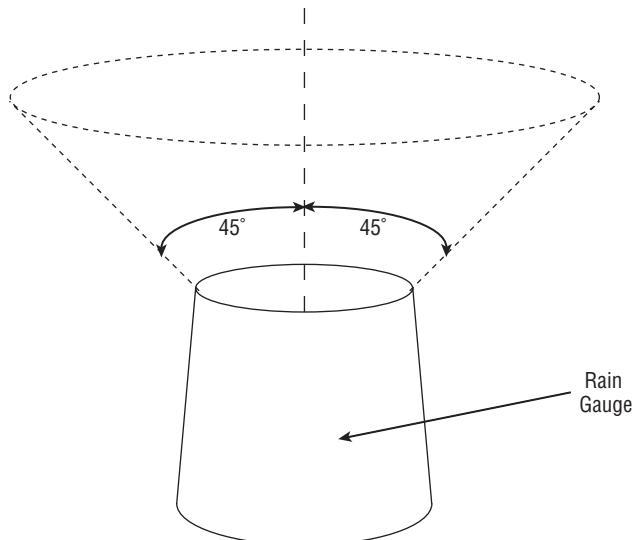

FIGURE 11-3: Rain gauge clear area.
- Install it in a location where rain won't be blocked by trees or structures. A good rule of thumb is that the rain gauge should have a clear view of the overhead sky plus 45 degrees in all directions, as shown in Figure 11-3.